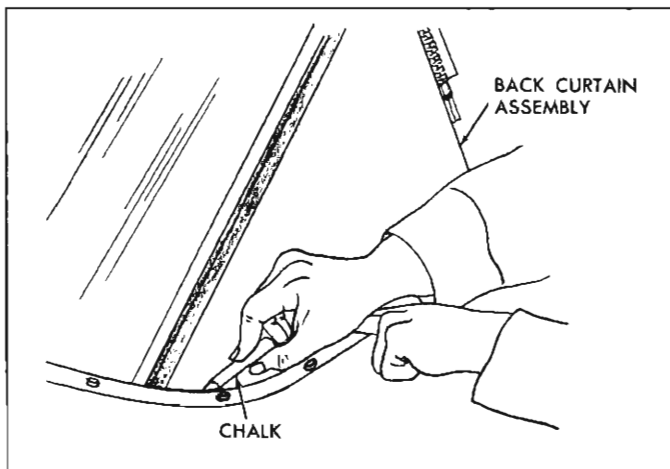

Fig. 67—Marking Back Curtain
19. Where required, place reference chalk mark on outer surface of back curtain along pinchweld finishing molding. Re-adjust back curtain assembly as required (fig. 67).